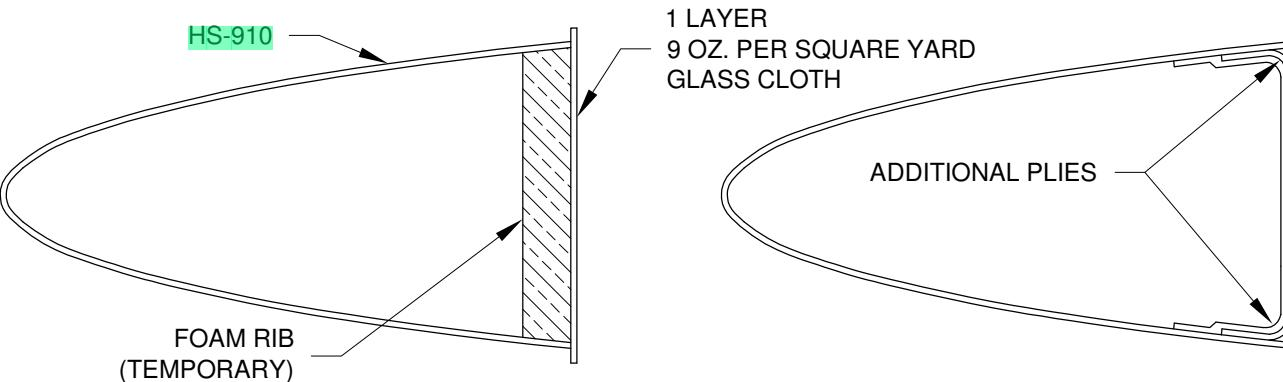

FIGURE 3: TEMPORARY RIB
Step 8: Trim a single layer of glass fabric to fit over the temporary rib and the aft edge of the **HS-910** Horizontal Stabilizer Tip Fairing. Lay up this layer of glass over the temporary foam rib using either epoxy or polyester resin. See Figure 3.